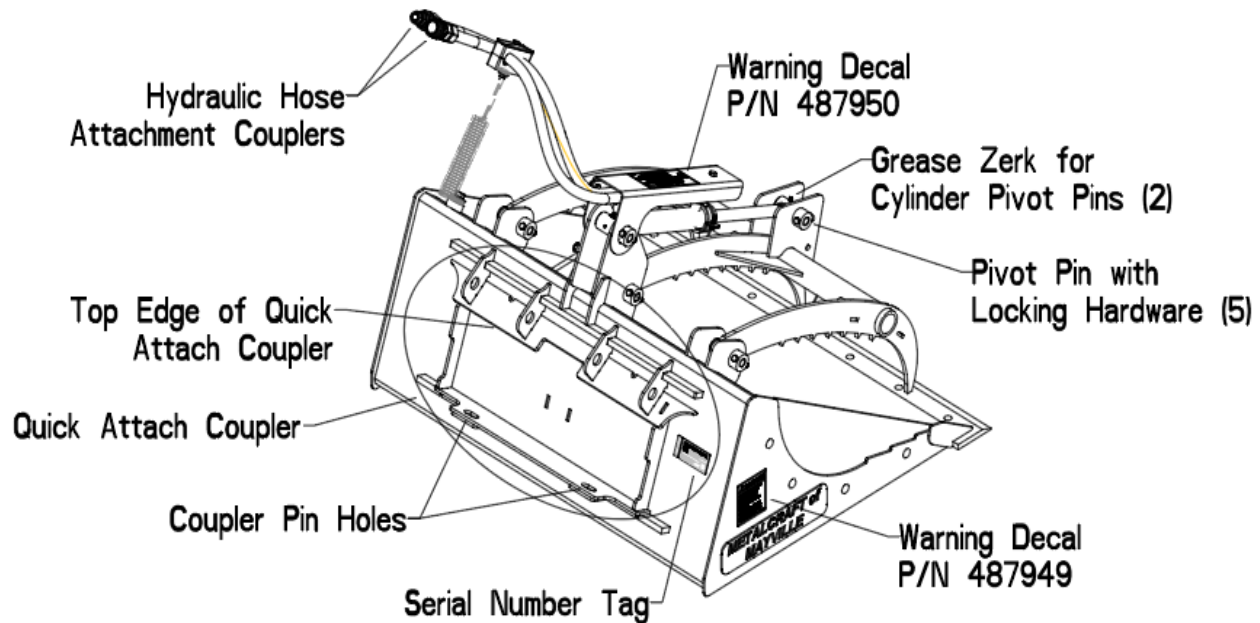

Figure 4-1. Grapple Bucket Key Components
1. **Mount (Figure 4-1)**. The quick attach coupler on the rear of the bucket is used to mount the attachment to the loader. See Section 4.3 for bucket mounting and dismounting instructions.
Read the loader's operator's manual for more details on mounting and dismounting attachments. Refer to Figure 4-1 for attachment mount terminology.